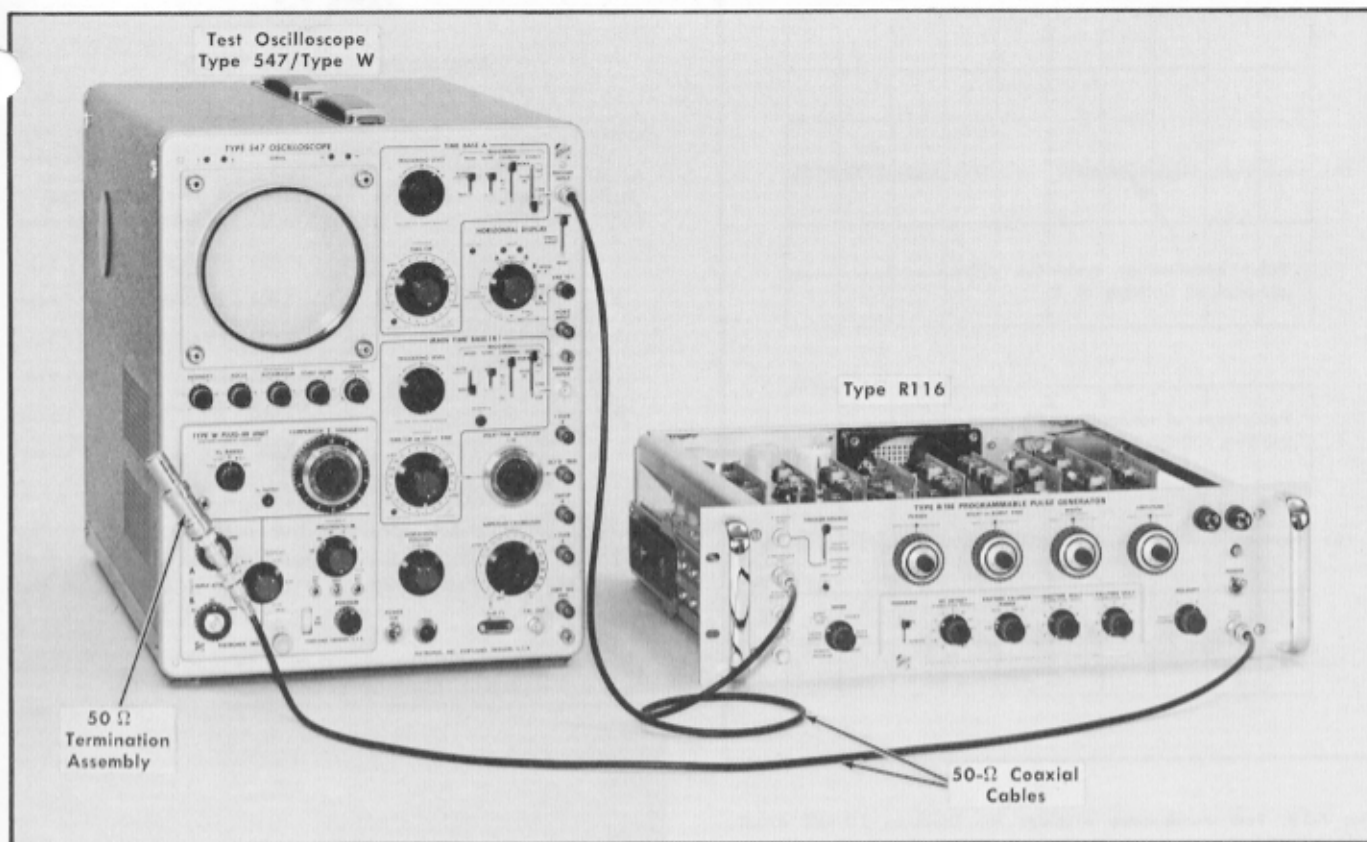

Fig. 7-11. Initial test equipment setup for calibration steps 7 through 9.
- a. Test equipment setup is shown in Fig. 7-11.
m. If R532 requires adjustment, reset the controls as given under Fig. 7-11 and recheck the amplitude adjustments as described in steps c through k.